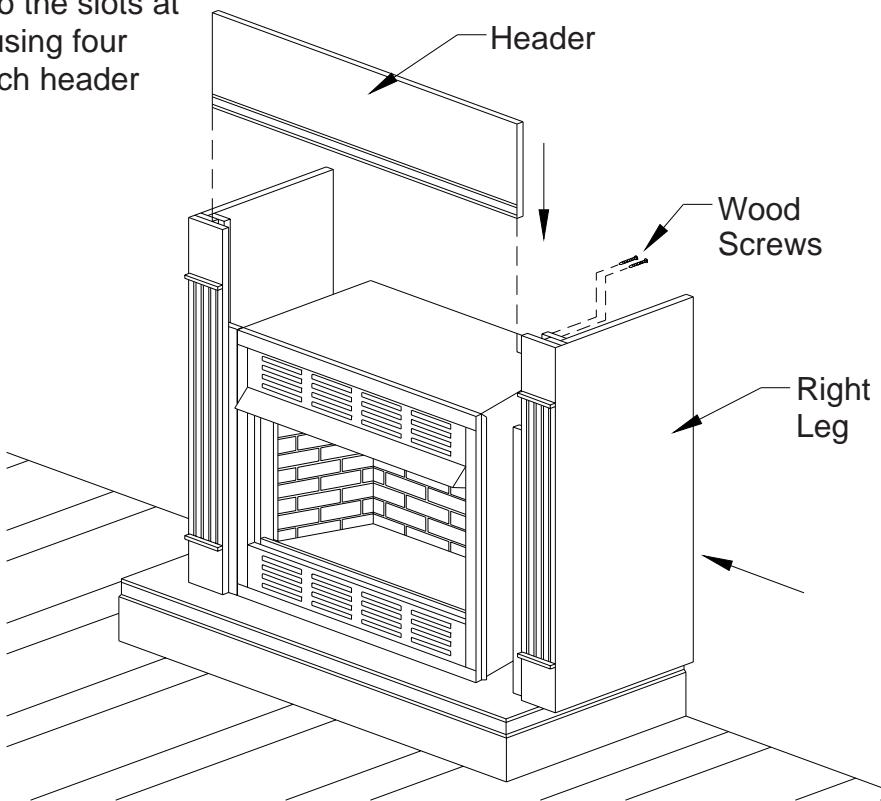

Figure 9 - Installing Cabinet Mantel Legs & Header
7. Place the Cabinet Mantel Legs on Hearth Base and slide each side firmly up against the unit (See Figure 9). **NOTE:** The Cabinet Mantel Legs and Hearth Base should be against the wall.